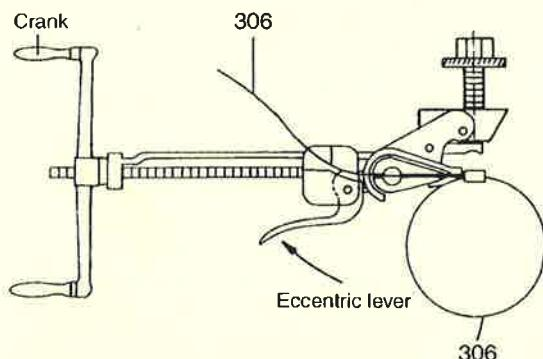

Figure 12: Tighten the joint clamp with the clamping tool Band-It and adapter J050
- Insert the band end of the joint clamp (306) into the clamping tool with adapter up to the joint clamp lock.
- Hold down the clamp end with the eccentric lever of the clamping tool and tighten the joint clamp (306) by turning the crank (figure 12).